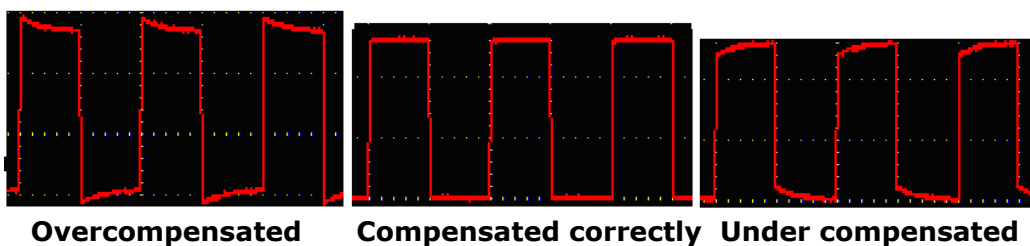
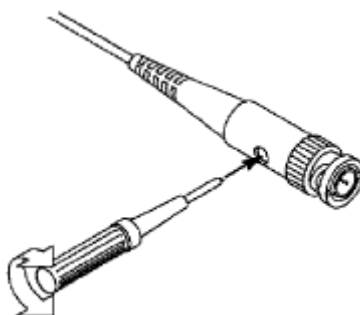

Figure 7. Displayed Waveforms of the Probe Compensation.
Figure 8. Adjust Probe.
- 2 Check the displayed waveforms and regulate the probe till a correct compensation is achieved (see Figure 7 and Figure 8).